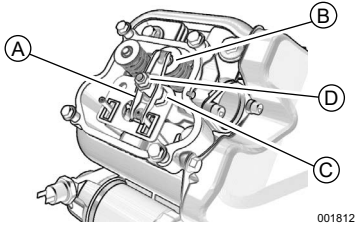
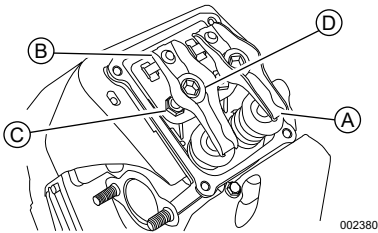

Figure 4-7. Valve Clearance Adjustment (10 kW)
Figure 4-8. Valve Clearance Adjustment (20–26 kW)
- See Figure 4-7 or Figure 4-8. Verify valve clearance between each rocker arm (A) and valve stem (B) with a feeler gauge.
See Figure 4-7 or Figure 4-8. Proceed as follows to adjust valve clearance: